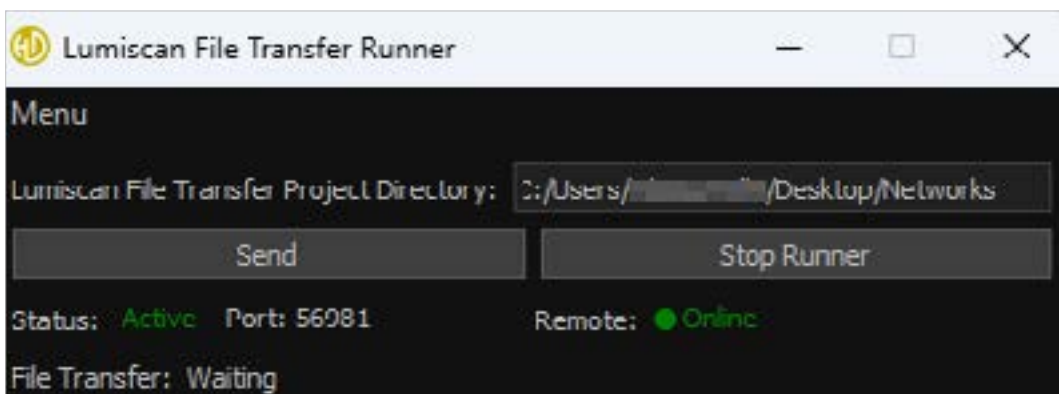

Fig. 30: LumiScan File Transfer: Runner connected to Trainer
4. If the connection to the Trainer is successful, the **Online** message will appear on the remote display (Fig. 30).